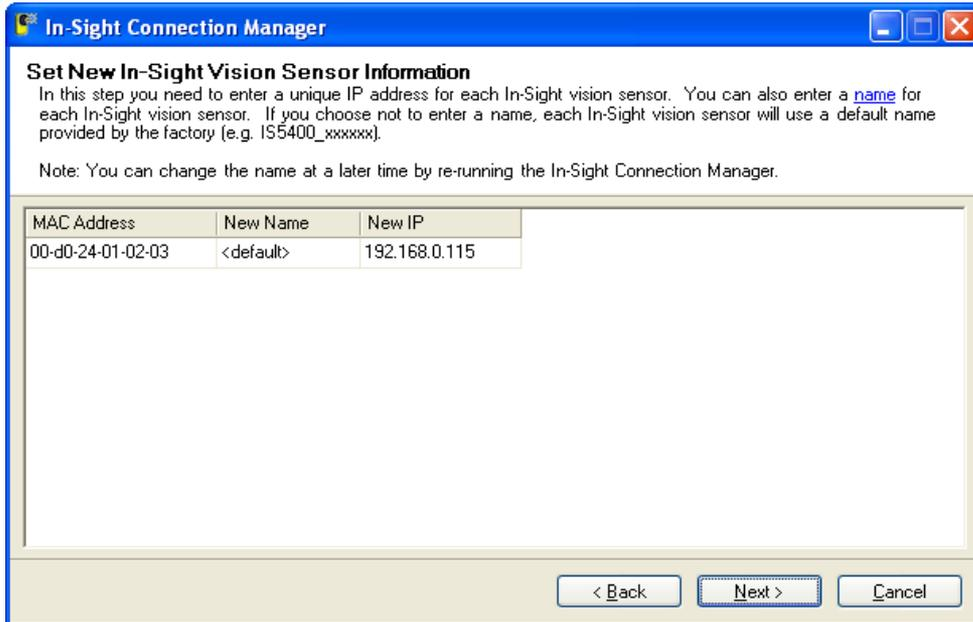

Figure 4-5: Set New In-Sight Vision Sensor Information Dialog
- For each sensor in the table (Figure 4-5), enter a unique IP address in the New IP column. Optionally, you can type in meaningful names for each sensor under the New Name column.